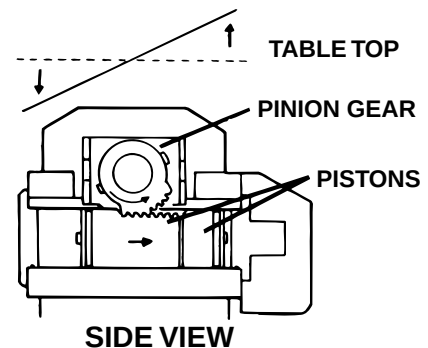

Figure 1-10. Trendelenburg Cylinder Assy.
2. Trendelenburg Cylinder Assembly - This cylinder / piston arrangement has rack teeth cut into the top of each piston. These teeth mesh with a pinon gear that is connected directly to the table side frames. The pinon gear shaft and table side frames are supported by bearings at either side. When hydraulic fluid is pumped into one side of the cylinder, the pistons are pushed in one direction, moving the pinon gear and table side frames with them. Oil pressure can be applied to either side of the piston, making the table tilt end for end. See figure 1-10.